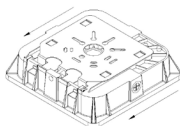

Fig. 3
2. Slide the mounting plate toward Screw A, and then remove it from the body of the fixture (Fig. 3, 4).